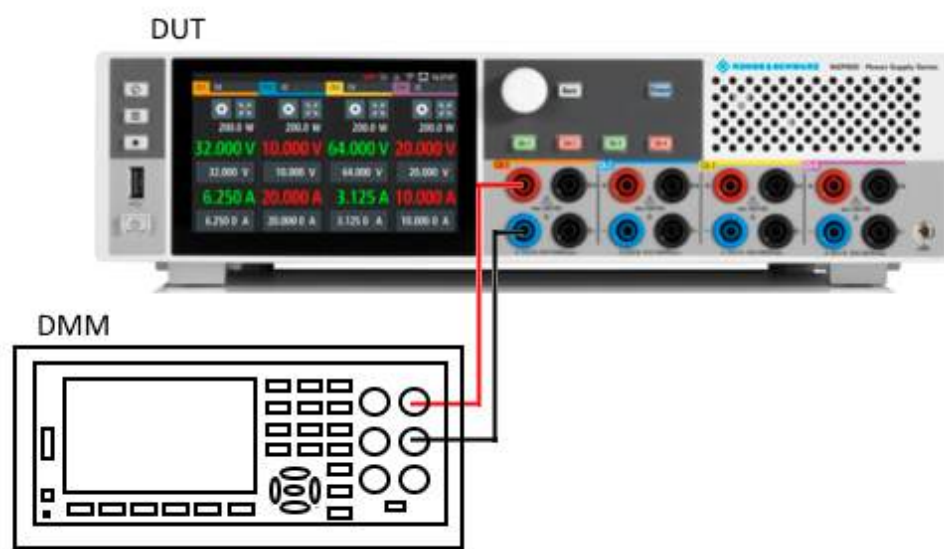
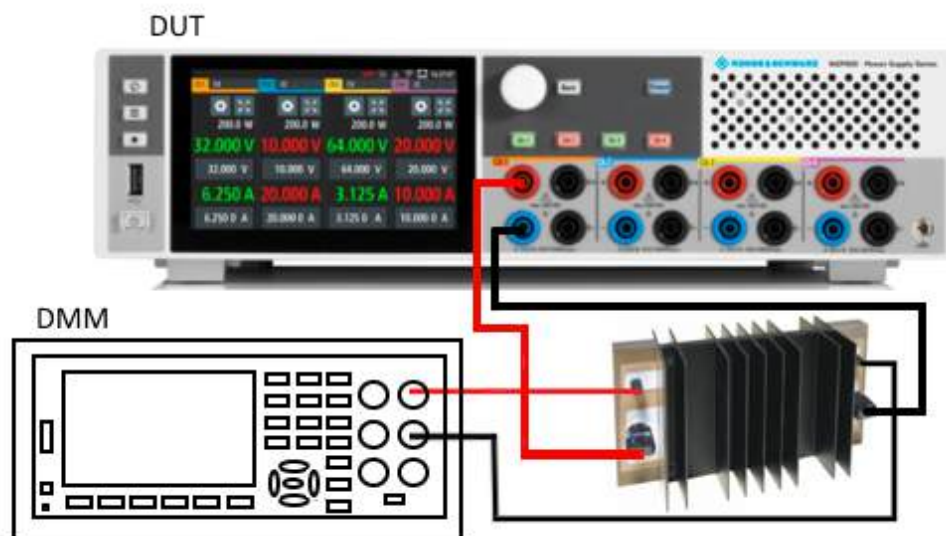

Figure 5-40: Voltage adjustment setup
Figure 5-41: Current adjustment setup
- Connect the DMM to the instrument and monitor the measured voltage or current. See Figure 5-40 and Figure 5-41.
3. Depending on the types of adjustment (voltage or current), set up the instruments illustrated in Figure 5-40 or Figure 5-41.